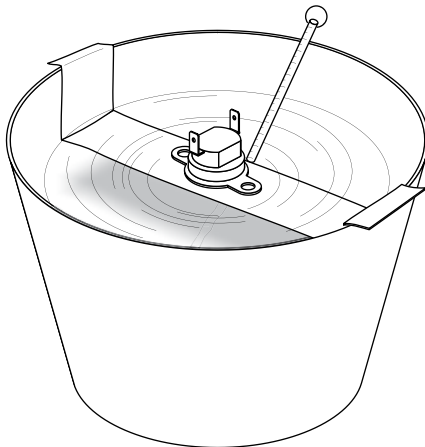

Figure 78. Testing the Oil Temperature Switch
- Immerse the sensing tip of the switch in oil as shown in Figure 78, along with a suitable thermometer.